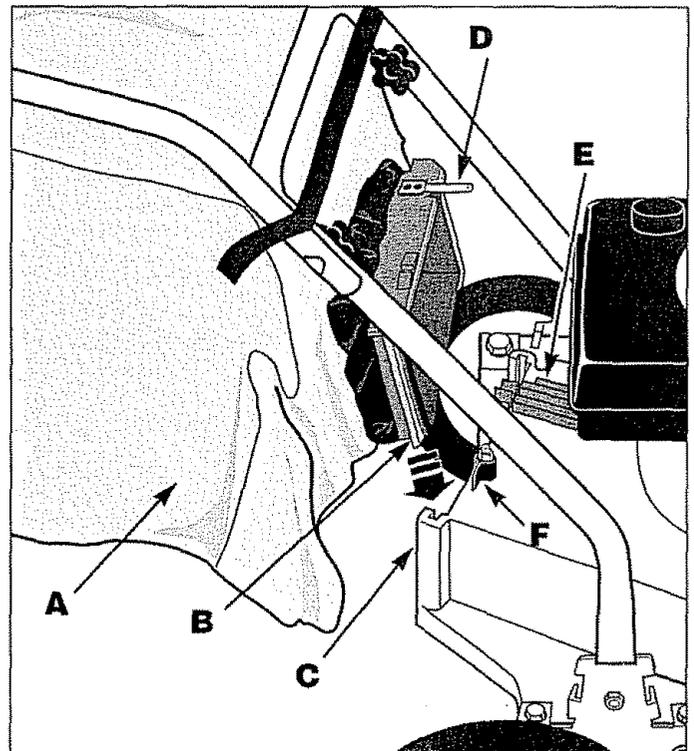

Figure 14: Install collection bag.
1. Make sure the bag (A in Figure 14) is zipped.
3. Line up the tabs on the bag inlet adapter (B) with the slots in the discharge opening (C) and slide the bag inlet adapter down all the way into the slots. Turn the retaining knob (F) until the tab on the knob drops into the slot on the top of the inlet adapter.